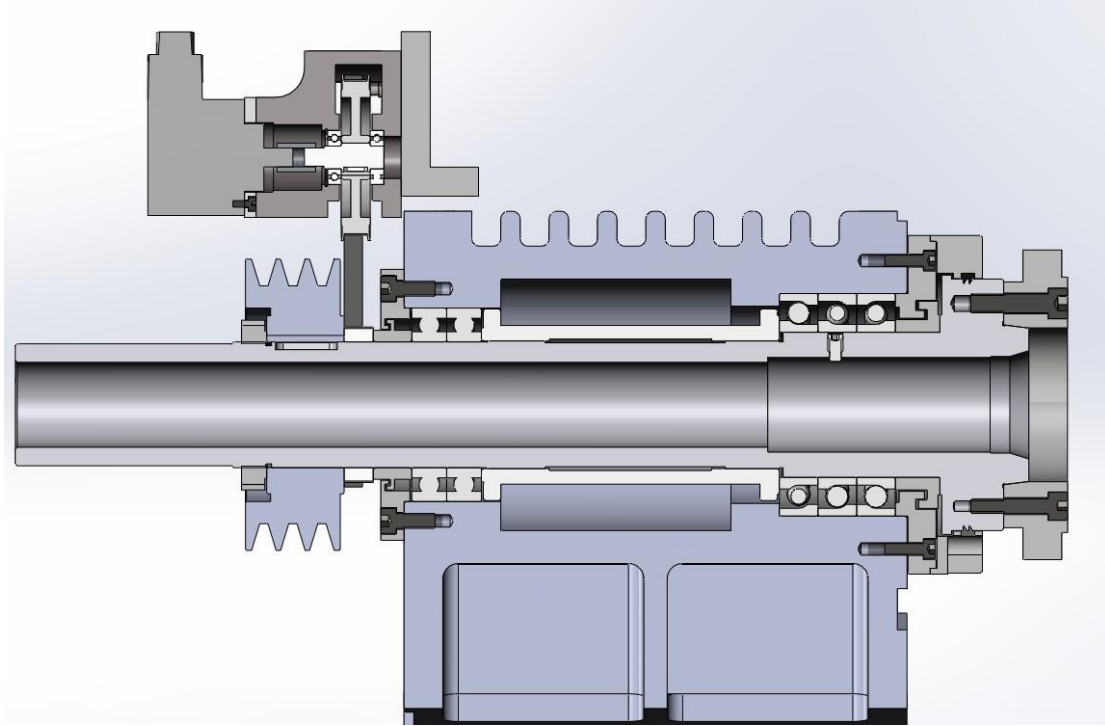

Figure 1: main shaft box structure diagram.
3.1.1. Main shaft box and main shaft encoder (main shaft box and encoder structure are shown in figure 1)
The machine adopts the self-made spindle structure, the spindle speed range is 60-4500r/min, and the main shaft is supported by angular contact ball bearing, which can meet the bearing requirements of axial and radial cutting force. The main shaft box and encoder structure are shown in figure 1.